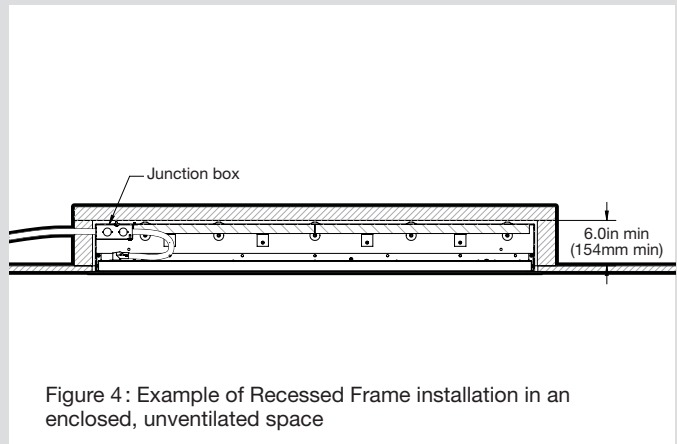

Figure 4: Example of Recessed Frame installation in an enclosed, unventilated space
3. When the appliance is installed in an enclosed, unventilated space, you must use an optional recessed housing; see the installation instructions for the recessed housing. Required to ensure adequate air circulation and safe use. (Fig. 4)